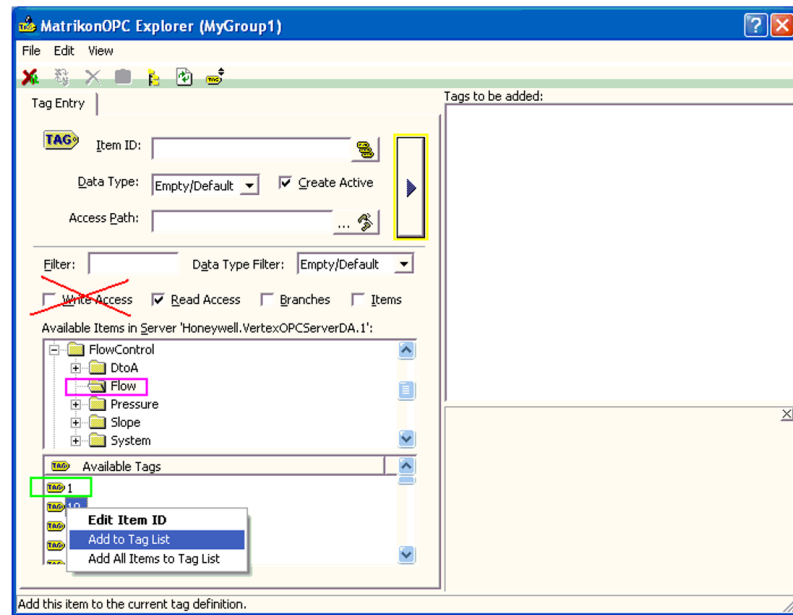

Figure 8-24. MatrikonOPC Explorer (g1)
1. Start the program. Type in the name of the OPC Server and the OPC server machine as shown in Figure 8-24.